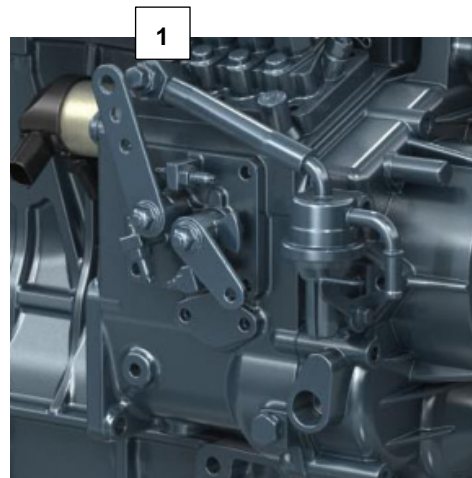

Fig. 8: Bleeding fuel lines 1 = Fuel bleeding screw
- 2 Release the fuel bleed screw (1). See fig. 8.
- 4 Retighten the fuel bleed screw (1) when no further air bubbles are expelled.